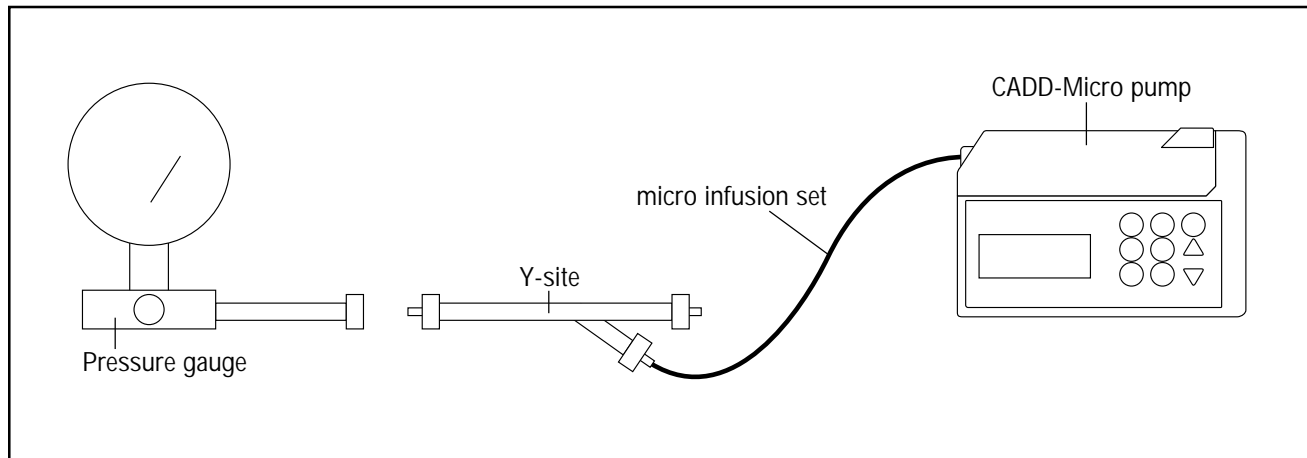

Figure 10. Occlusion test set-up for CADD-Micro pump.
4. Insert the needle into the Y-site. Prime the Y-site tubing. Attach the Y-site to the apparatus as shown in Figure 10.